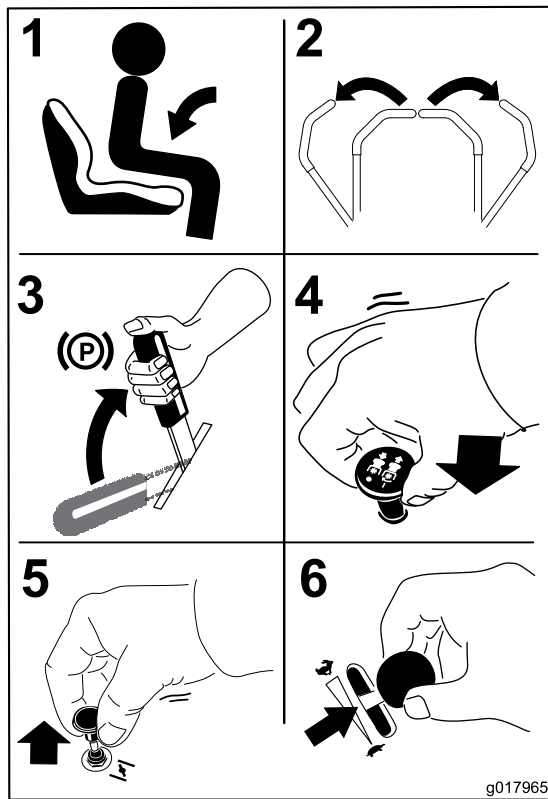

Figure 19
1. Sit down on the seat (Figure 19) and fasten the seat belt.
2. Move the motion controls outward to the neutral lock position (Figure 19).
3. Set the parking brake (Figure 19); refer to Setting the Parking Brake.
4. Move the blade control switch (PTO) to the Off position (Figure 19).